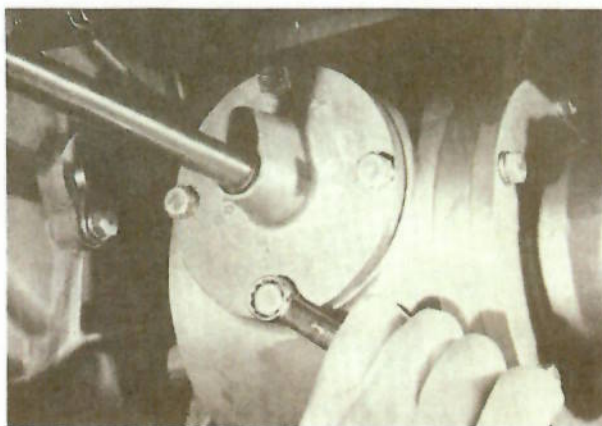

FIG. 28 — FASTENING THE SHIFT COVER PLATE TO THE OVERDRIVE FORWARD HOUSING.
- Then, place the shift cover assembly with assembled parts in position on the overdrive forward housing making certain that the shaft on the shifter fork engages the hole in the shift yoke guide (P/N 4119). Install and tighten the four hex-head special cap bolts (P/N 4143) and lock washers (P/N 1035-19) to 1.5 m-kG (11 ft-lbs.) torque, (Fig. 28).